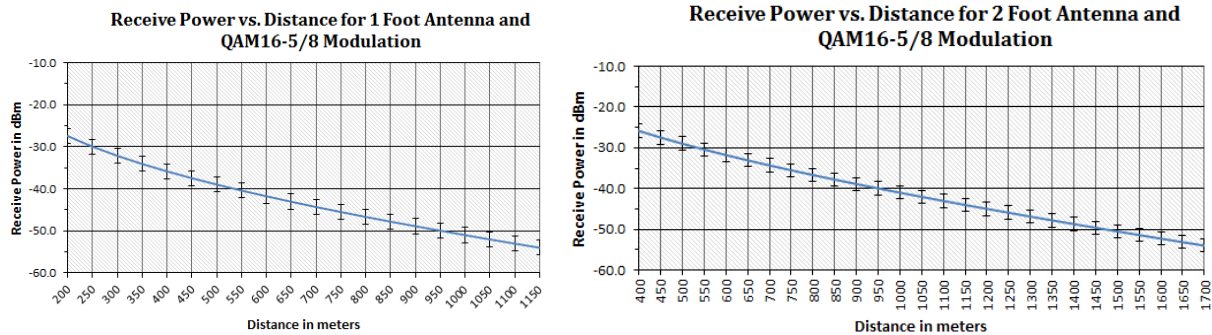

Figure 5-18: Typical AireLink 60 MX/LX RSSI vs. Distance Charts for stand distance settings
16. When aligning the system it is important to take a look at the Receive Signal Strength using either a voltmeter attached to the alignment voltage connector located at the side of the radio housing, or using the LightPointe BLE Tool and Observe the RSSI value shown in the radio submenu. The RSSI chart in Fig. 5-18 shows the RSSI signal voltage as a function of the deployment distance under ideal and clear weather conditions. Therefore, and when the system is installed under non-clear weather conditions, the values can be lower during the actual installation process. 60 GHz systems are also impacted by oxygen absorption (see Fig. 2-2) and these values can vary several dB between sea level installations and installations at higher altitudes. The RSSI values are different for the low band and the high band radio and the values vary slightly and within a few percent from one radio system to another due to manufacturing tolerances. However, the chart provides a very good indication of expected RSSI values as a function of deployment distance. The overall goal of the alignment process is to align the system as close as possible to the RSSI value provided in the RSSI chart. The RSSI voltage reading in Volt corresponds to the RF RSSI signal reading in dBm. In other words, and with the correct polarity chosen, a system that is not aligned at all will show a negative voltage reading close to -0.80 Volt and this translates into a -80 dBm power reading. This signal level is far too low to establish a data connection. During the alignment process the voltage reading will increase, meaning "less negative" voltages or higher RF RSSI reading in dBm will be recorded. The goal is to align the system at its best possible and highest RSSI reading (e.g. increase the voltage reading. When using the *Lightpointe BLE Tool*, the RSSI reading is given in dBm directly.